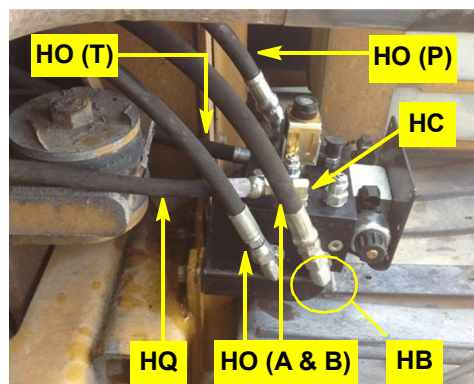

Figure 8: Steering, load sense, pressure and tank hoses connected at steering block
- At the hydraulic steering block (Figure 8) connect: